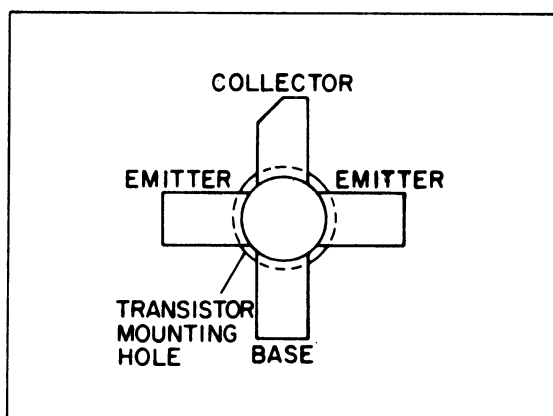

Figure 6 - Lead Identification
4. Trim the new transistor leads (if required) to the lead length of the removed transistor. Cut the collector lead at a 45° angle for future identification (see Figure 6). The letter "C" on the top of the transistor also indicates the collector.